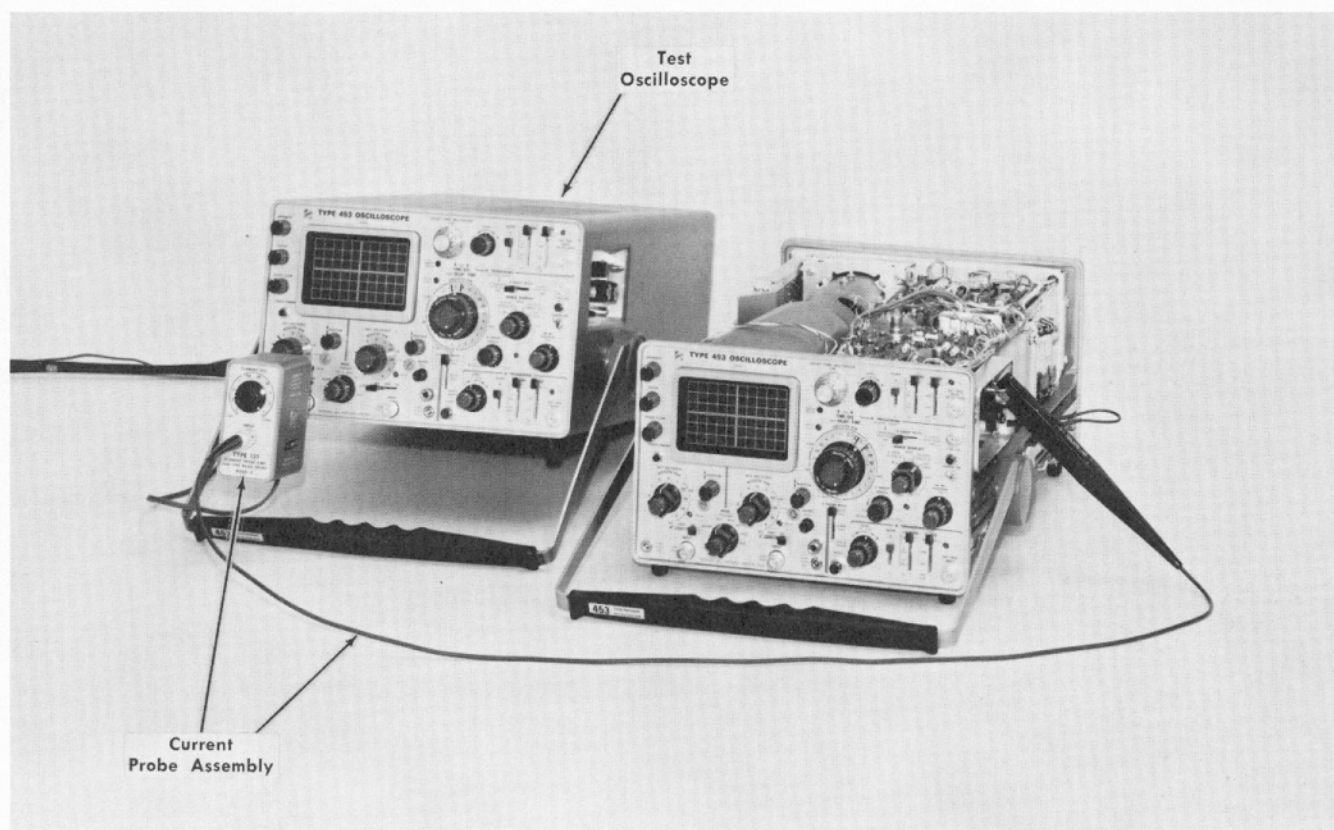

Fig. 6-61. Initial test equipment setup for step 62.
- Test equipment setup is shown in Fig. 6-61.